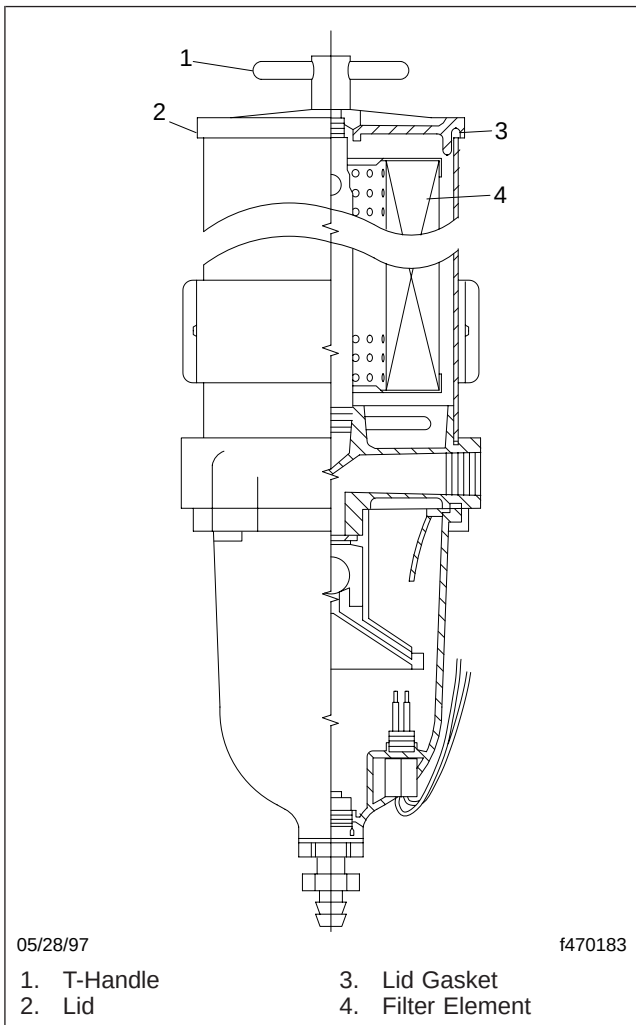

Fig. 6, Racor 900FG Fuel Heater/Water Separator
1. Remove the lid by turning the T-handle. See Fig. 6.